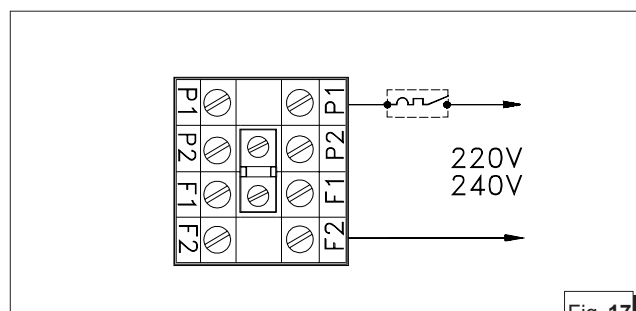

Fig. 17
2 - Serial connection; in this configuration it is possible to use a voltage of 220 (240) V between points P_1 and F_2 , as shown in the diagram in fig. 17.